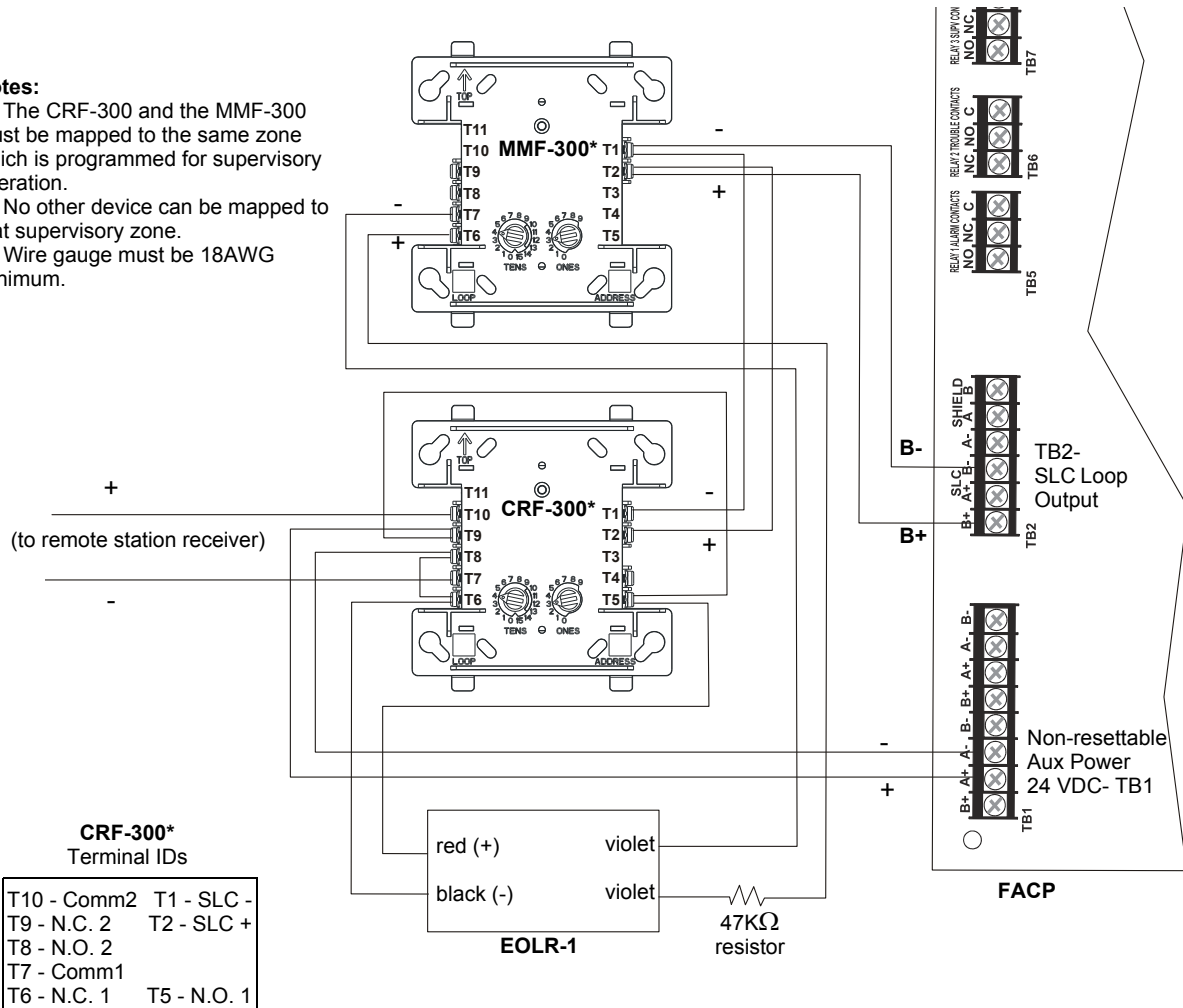

Figure H.3 Alternate Transmission for Supervisory Signals
- To comply with CAN/ULC-S559-04, the 4XTMF option must be utilized along with the configuration shown in Figure H.3.